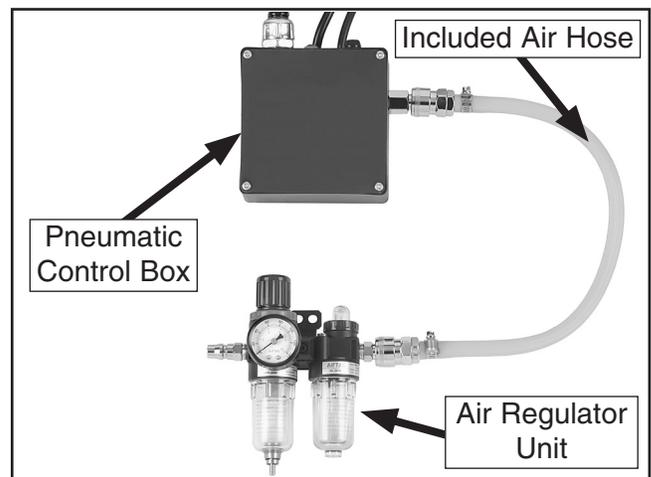

Figure 11. Example of the air regulator unit connected to the pneumatic control box.
7. Mount the air regulator unit on your mill so that the included air hose will connect this unit to the pneumatic control box (see **Figure 11**).